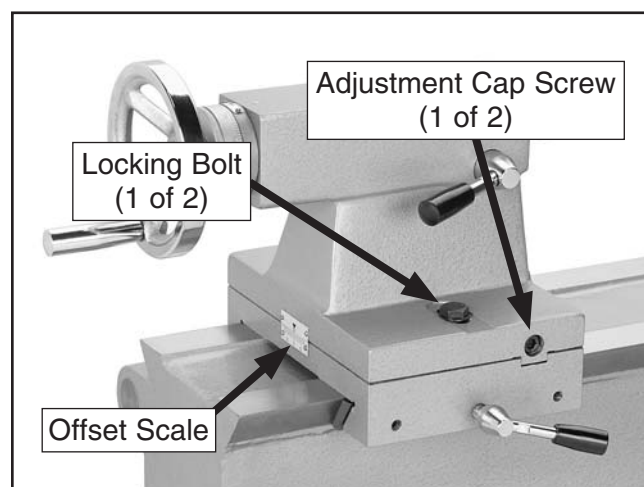

Figure 39. Tailstock offsetting components.
1. Loosen both offset locking bolts (see **Figure 39**).